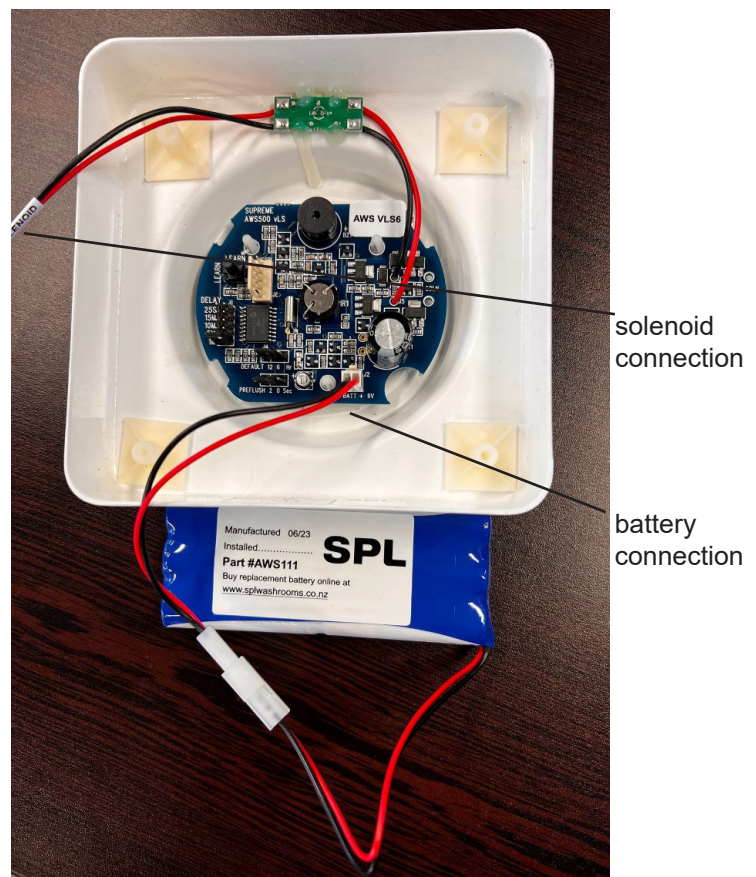

Fig 5. Battery connection connects to mains adapter if applicable
4. Connect the solenoid lead and battery to the printed circuit board (PCB) - Fig 5.